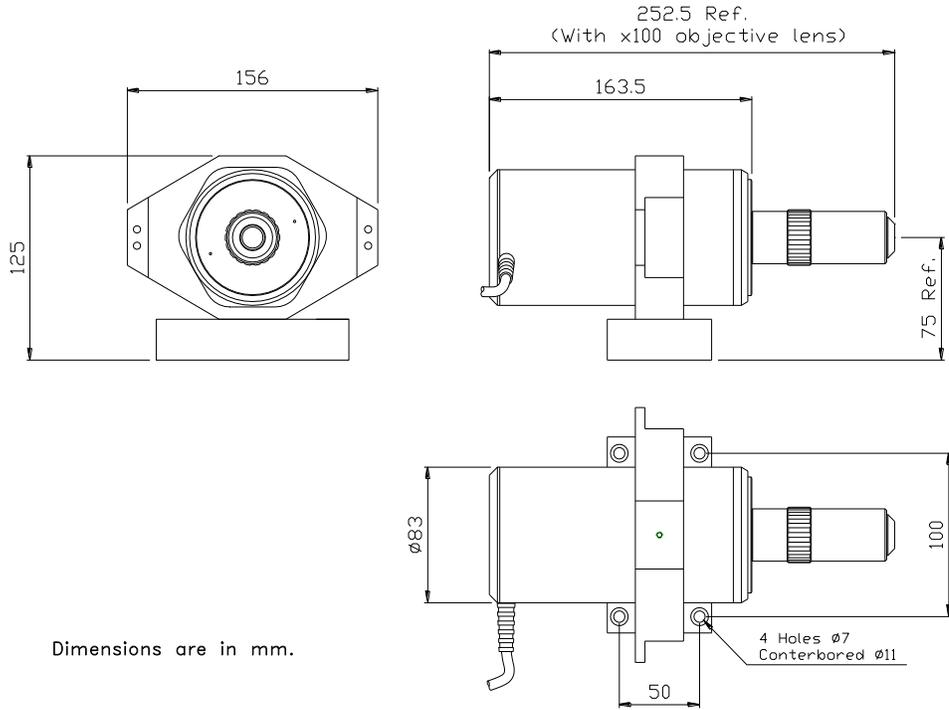

Figure 1: Mechanical drawing
1. Install the laser in front of the system's objective lens (See Figure 1).